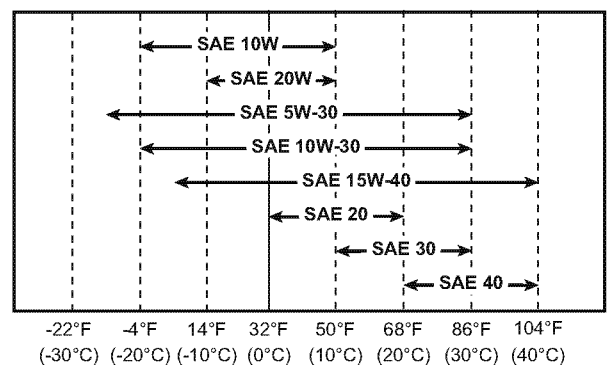

Figure 4-5
- Select the oil viscosity based on the ambient temperature where the engine is being operated. See the SAE service grade viscosity chart (**Figure 4-5**).
Select the appropriate engine oil viscosity based on the ambient temperature and use the SAE service grade viscosity chart in **Figure 4-5**.